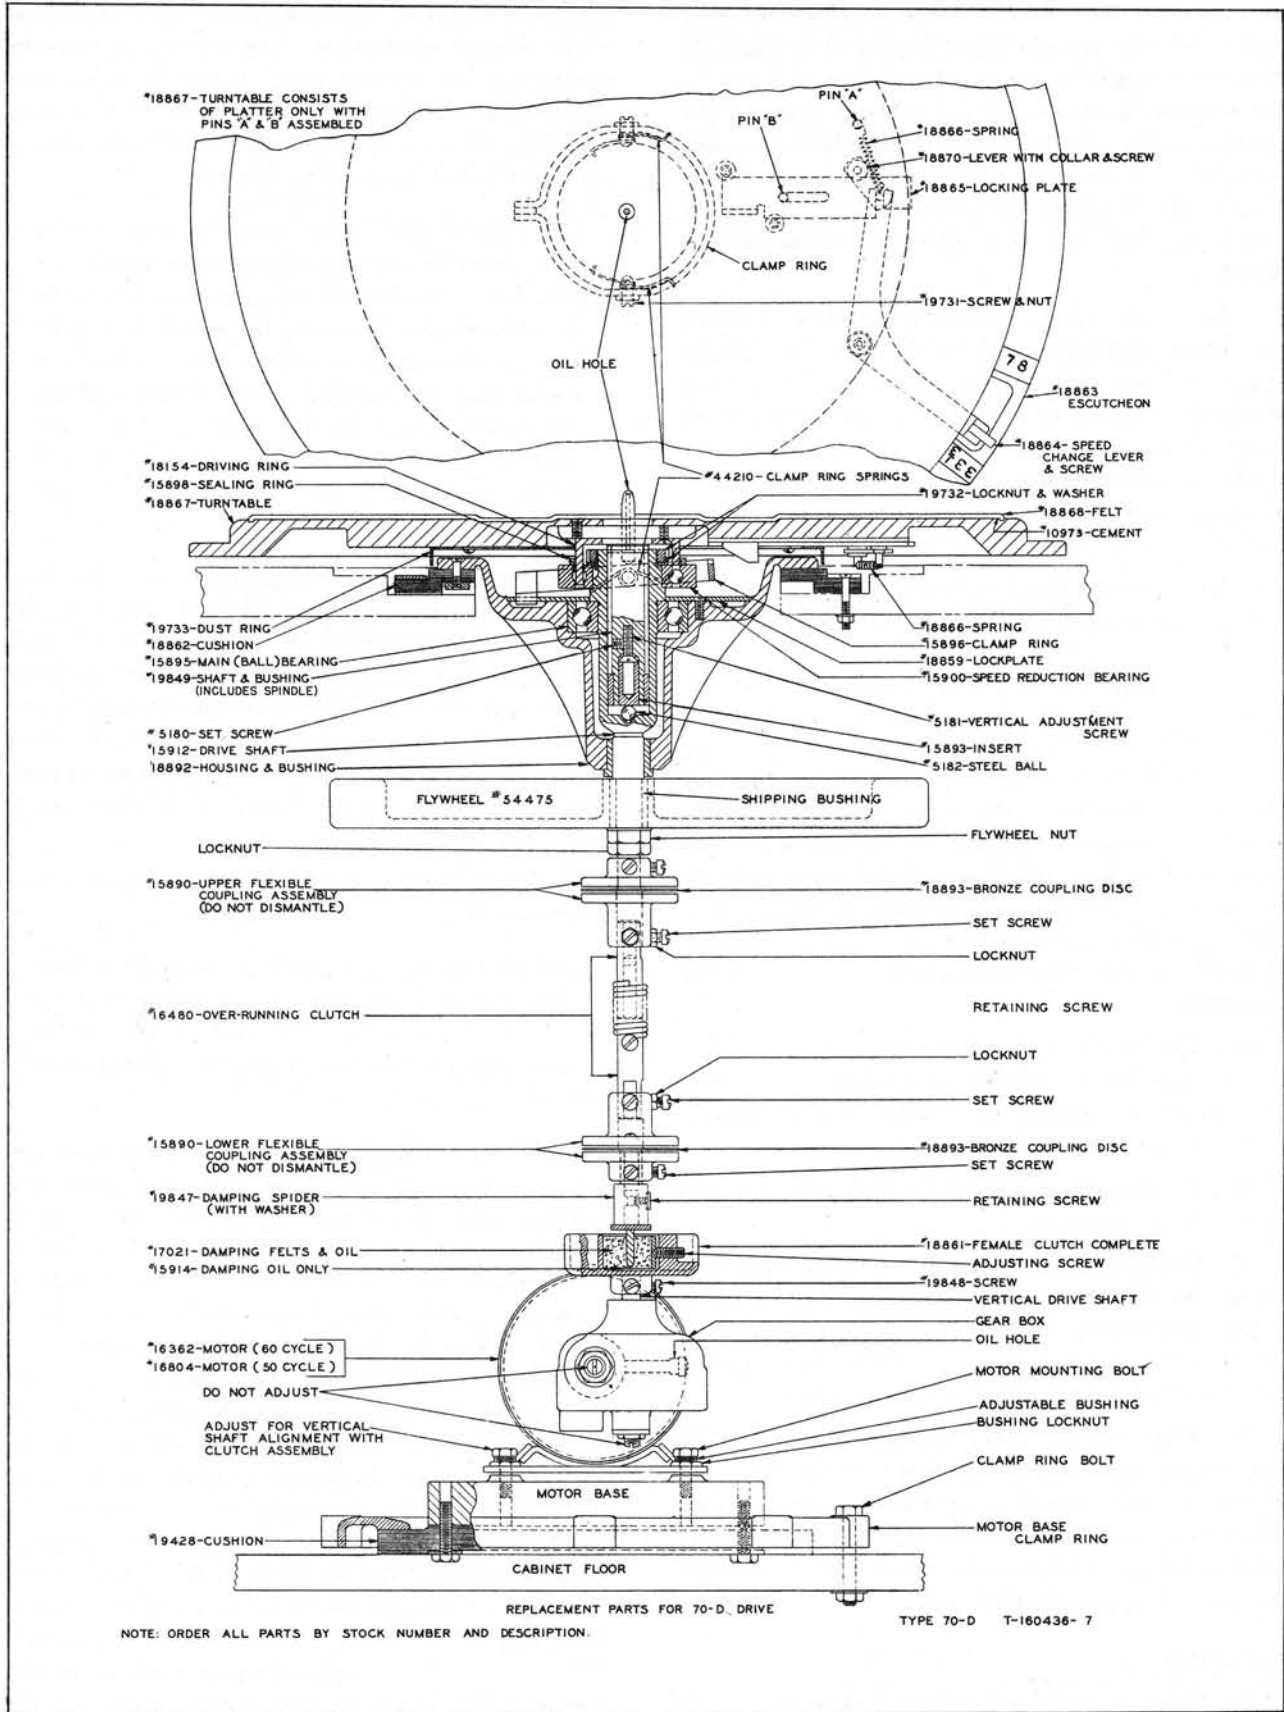

Figure 3—Turntable-drive assembly.
14. Refer to figure 3. Open the door of the cabinet by using the hand grip provided at the
17. Refer to figure 3. With the set screws and locknuts loosened, place the coupling shaft and flexible coupling assemblies in position at the drive assembly, slide the upper flexible coupling up on the flywheel shaft, and the lower flexible coupling down on the drive shaft. Space the couplings equally on the shafts and then tighten the set screws and locknuts. Note that the flywheel shaft and the short shaft projecting upward from the mechanical filter are "spotted" for the cone point set screws and that both ends of the coupling shaft are provided with "flats" for the accommodation of their respective set screws in the collars of the flexible couplings. Observe also that the coupling shaft consists of two members (male and female), the joint of which is concealed by the spring of the over-running clutch. The shaft should be replaced in such a manner that the retaining screw of this spring is toward the bottom of the shaft. Be sure that the two members
19. The mechanical filter (cup-like receptacle above the motor) includes two adjusting screws which, when tightened, cause movable plates to compress the felt cushions which form a part of this filter. As shipped from the factory, these adjusting screws are loosened an amount such that proper pressure is obtained when the screws (see figure 3) are tightened six turns. At this point the felt cushions should be firm but not hard.